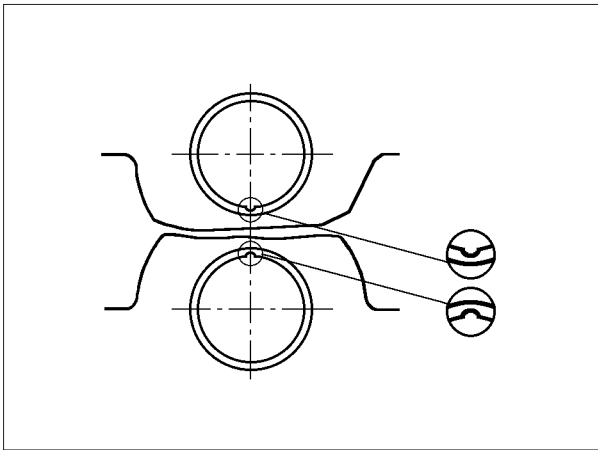

Fig. 1.
- 7) If the bearing bush is to be removed the existing bearing bush is plugged out by means of a mandrel, the bores are cleaned and new bearing bush is mounted, see fig. 1.